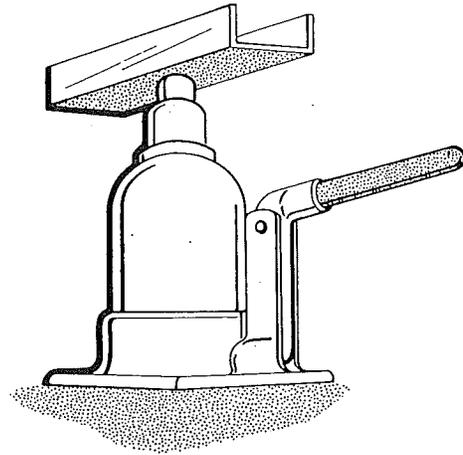

Figure 3
2. To distribute the concentrated loads created by the jacks, a steel pad or plate should be placed between the jacks and the steel I-beam or c-channel member. See Figure 3.